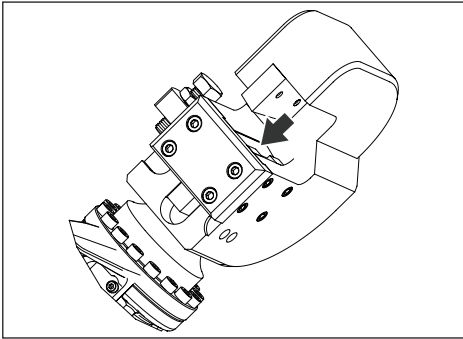

Figure 4, Piston and Blade Fully Retracted ("Home") Position
- After the piston is fully advanced, it will automatically reverse direction and move to the fully retracted “home” position. See Figure 4.
Be sure that the piston and moving blade are located in the fully retracted “home” position before placing any material inside the cutting head. See Figure 4.
2. Be sure that the piston is in the “home” (fully retracted) position. See Figure 4.